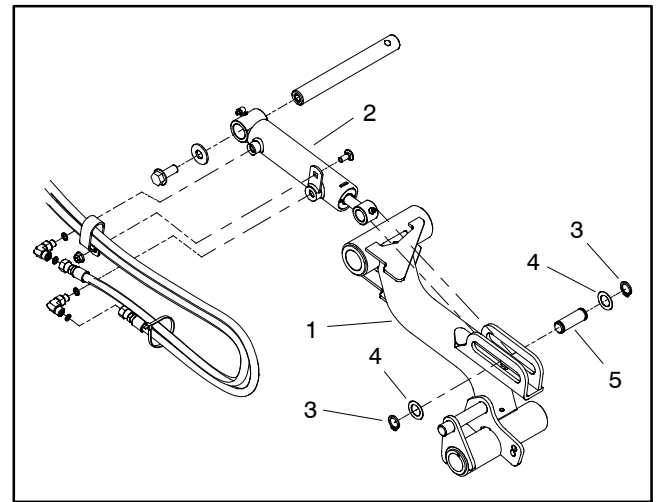
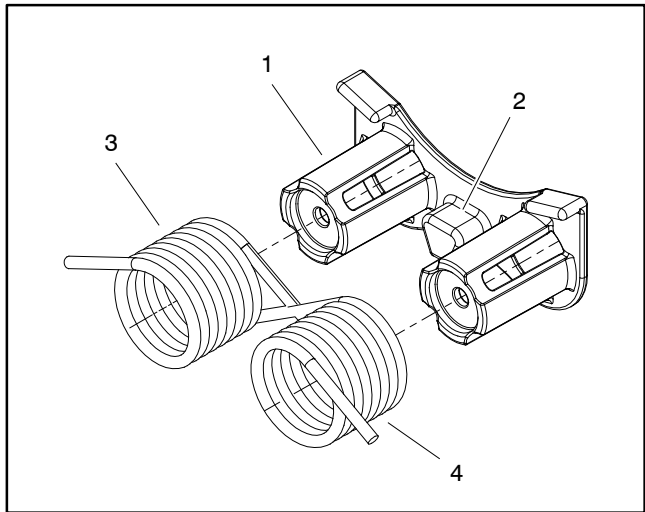

Figure 25
Figure 28
3. Remove one retaining ring (item 3 in Fig. 25) and thrust washer (item 4 in Fig. 25) from the cylinder pin (item 5 in Fig. 25) that secures lift cylinder to lift arm. Pull cylinder pin from the lift cylinder and lift arm. Locate and retrieve second thrust washer.
5. Remove lynch pin (item 12) and rear thrust washer (item 13) from rear of pivot yoke. Slide pivot yoke assembly from lift arm. Locate and retrieve front thrust washer (item 13).
1. Position rear lift arm to frame and slide pivot shaft through frame bosses and lift arm. Secure shaft with washer head screw (item 10).
2. Place washer (item 5) over rear of each pivot shaft.
3. Place torsions springs (items 14 and 15) onto housing (item 1). Position long leg of springs forward and pointing out from top of spring. Short leg of springs should be against stop on housing (Fig. 28).
4. Position housing (item 1) to lift arm pivot shafts and secure with two (2) flange head screws (item 6). Make sure that washers (item 5) remain on ends of pivot shafts and short end of torsion springs are against stop on housing.
5. Align lift cylinder rod end to lift arm mounting slot. Slide cylinder pin (item 5 in Fig. 25) with retaining ring (item 3 in Fig. 25) and thrust washer (item 4 in Fig. 25) through the lift cylinder and lift arm. Install second thrust washer on pin and secure with second retaining ring.